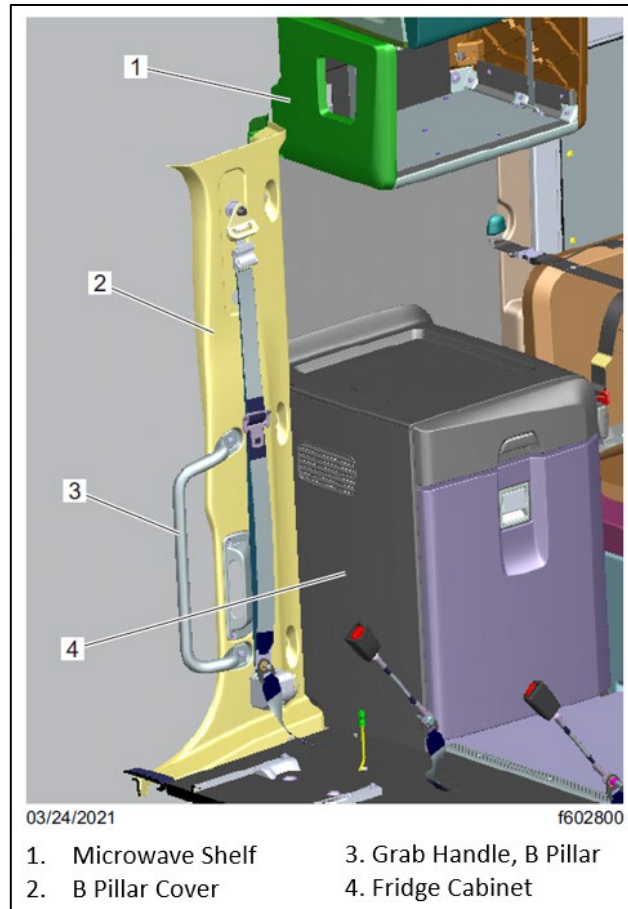

Fig. 34, B-Pillar, Microwave Shelf, and Refrigerator Cabinet Location
19. See Fig. 34. At the RH side B pillar, install the grab handle, seat belt mounting, and pillar covers. For instructions on removal of seat belt assembly, refer to **Section 91.01** of the *New Cascadia™ Workshop Manual*.